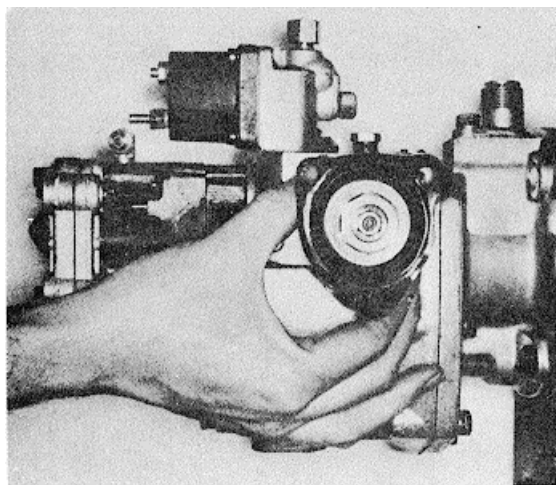

Fig. 5-25, F5302. Removing AFC bellows and piston assembly
2. Carefully lift bellows away from sealing surface around AFC cavity and pull bellows, piston and plunger assembly from AFC barrel. Fig. 5-25.
8. Slide plunger and piston/bellows assembly from tool and into barrel. Insert very carefully to avoid damage to the "Glyd" ring. Fig. 5-25.